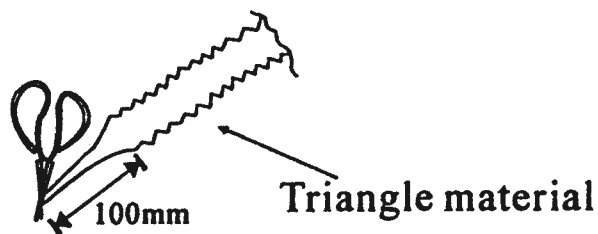

Fig.4
1.Scissor the material,which makes the front material form triangle cloth with the length of 100mm(Fig.4)